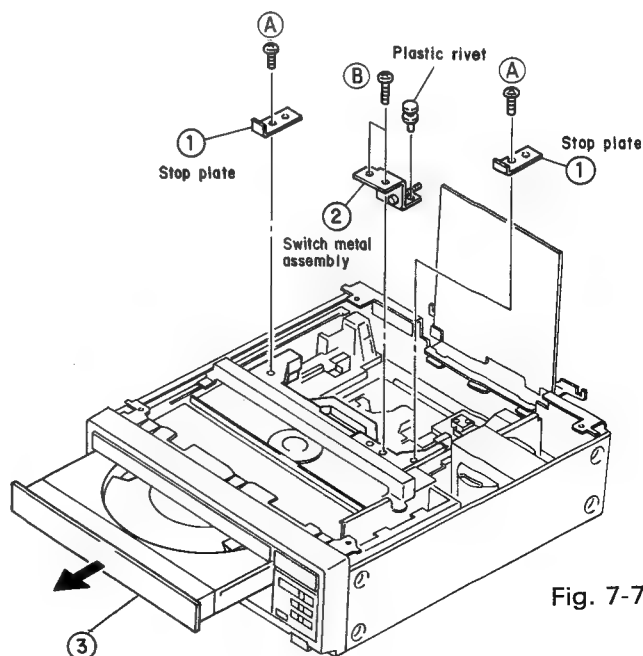

Fig. 7-7
## 7.4 HOW TO REMOVE THE DISC TABLE (Fig. 7-7)
- ① Remove the four screws (A) of the DADB assembly to lift up the DADB assembly.
- ② Match the non-toothed section of the inside gear with the notch of the disc table gear to engage them, and insert the disc table.
- ③ Mount the metal switch assembly and the two stop plates which were removed in Fig. 7-7.
- ④ Install the DADB assembly which was removed in step ①.